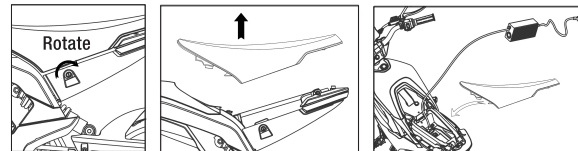

Figure 1
1. Body charging (Figure 1)
- ① Unlock the seat lock;
- ② Remove the seat;
- ③ Plug the AC charging connector into the on-board charger socket - plug the output connector into the vehicle charging port - put the seat back in place. The indicator light is red during charging, and will turn green after the battery is fully charged. While charging is done, disconnect from the AC power source right away.